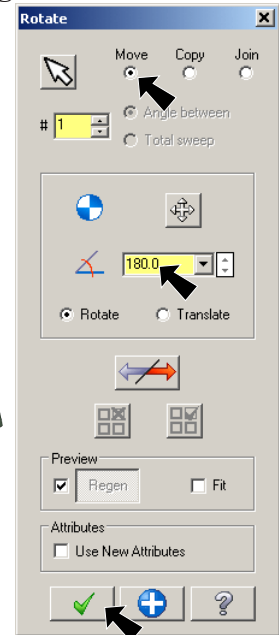

**Fig. 11**
Step 6. Click the **solid body** again to select it and click **End Selection** (ENTER), **Fig. 11**.